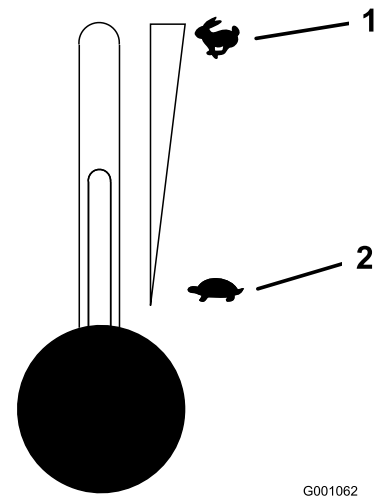

Figure 15
5. Move the throttle lever to the middle position (Figure 15).
- Move the throttle lever midway between the slow and fast positions (Figure 15).